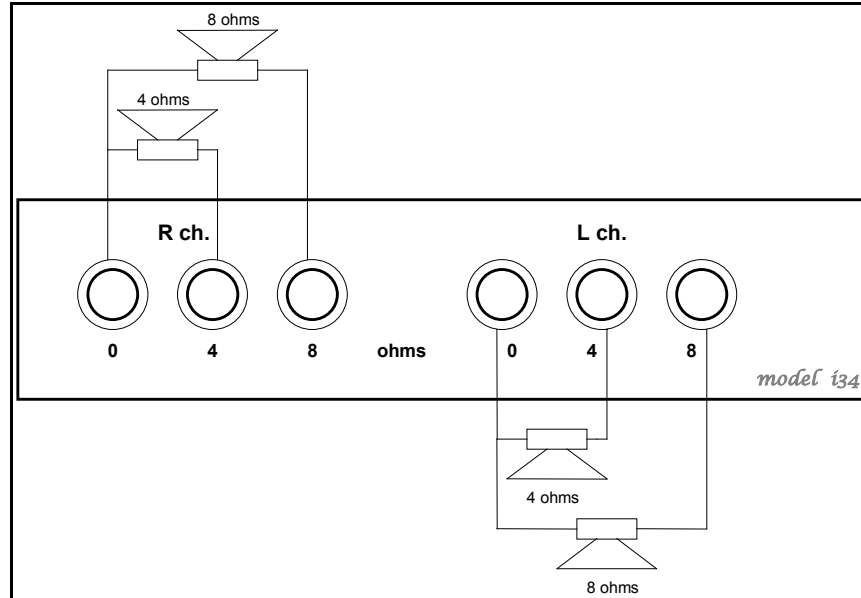

Figure 2: *model i34* speakers connection
**NOTE: 4 ohms and 8 ohms speakers cannot be connected to the speaker terminals at the same time! Figure 2 is for illustration purpose only.**